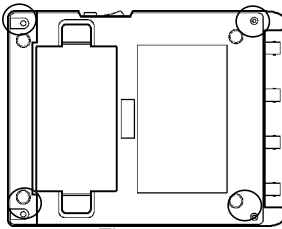

Figure 1
2. Remove the four screws which is holding on the rear panel with a Phillips screwdriver (see Figure 1).